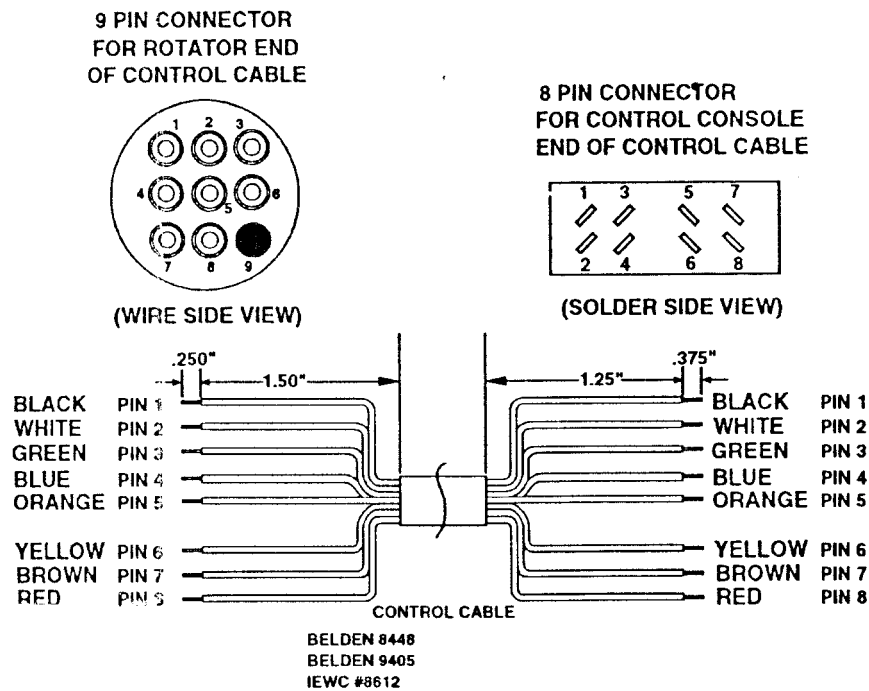

Figure 3 Control Cable Connector Attachment
3. If this is a new installation, assemble the rotator cable as shown in Figure 3, or purchase a pre-assembled cable.